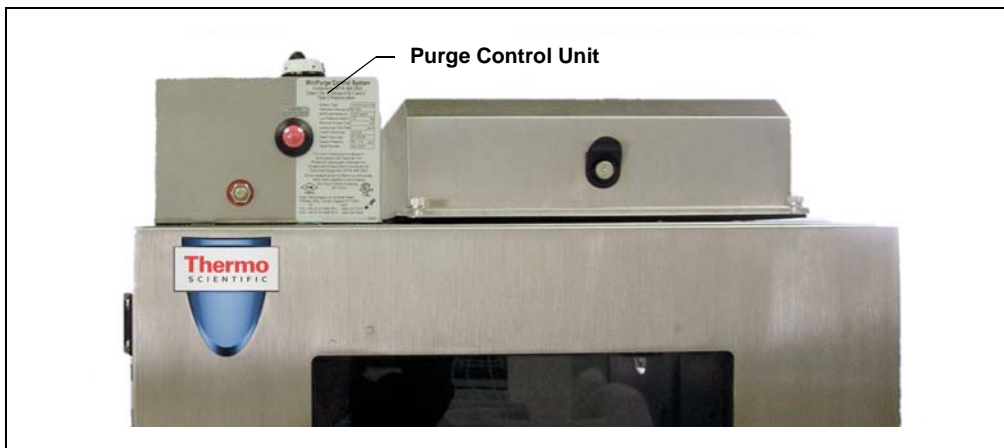

Figure D-1. Purge Control Unit Installed on Top of AE
3. With the pressure indicator ball facing toward the front of the AE, install the purge control unit where the cover plate was removed (see Figure D-1).